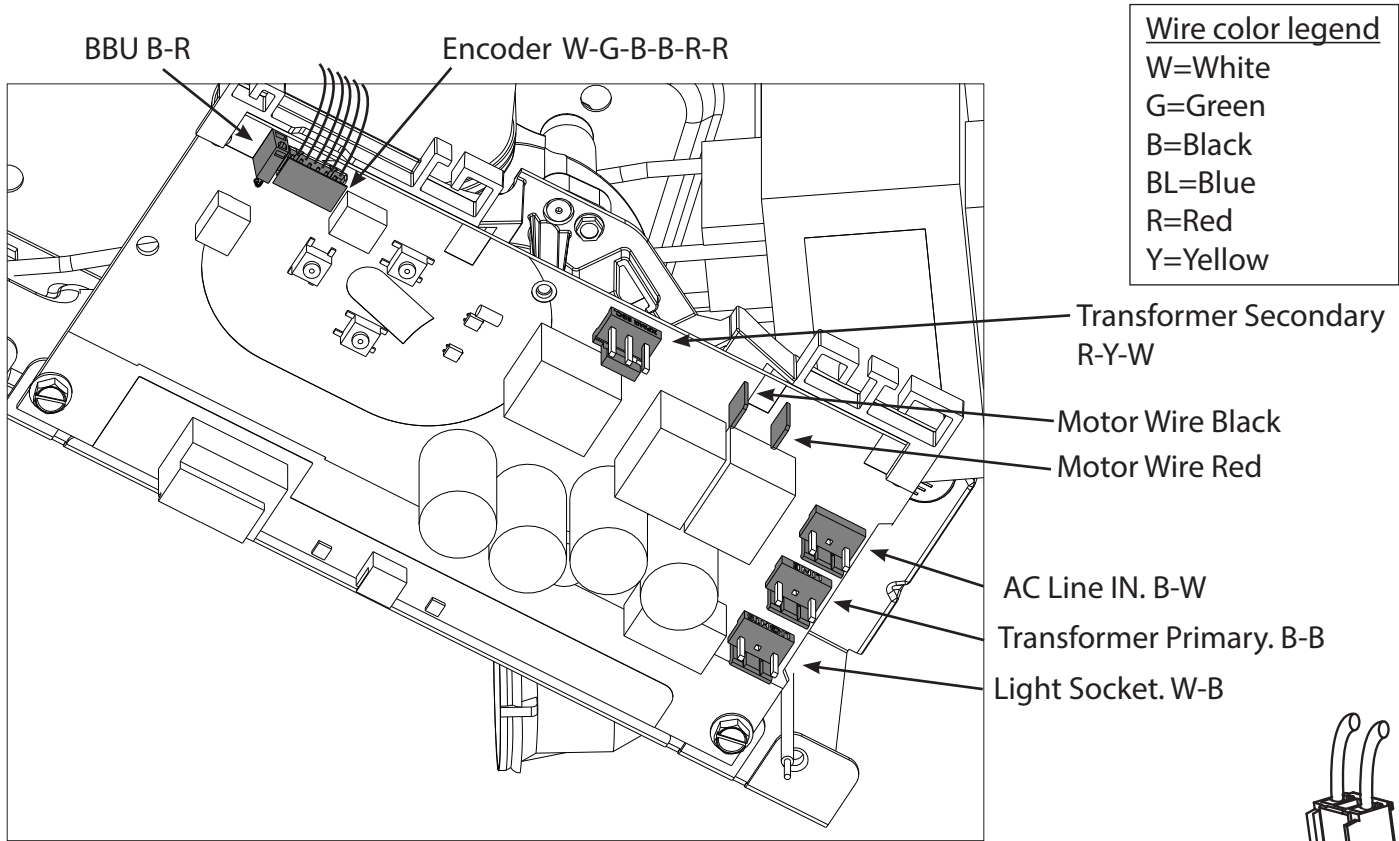

FIG. 4
7. Note the locations and disconnect lights, transformer primary, AC power, red & black motor wires, transformer secondary, and encoder harnesses. FIG. 4